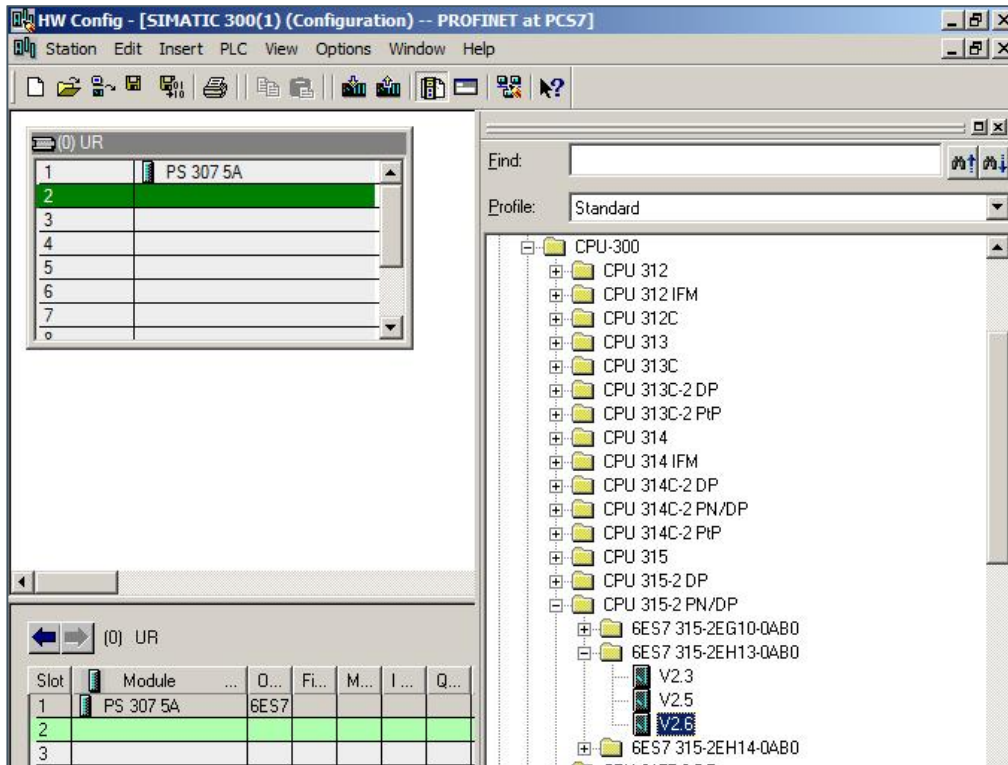

Figure 23: Adding the corresponding CPU unit
- 3) Select **SIMATIC 300 > CPU-300 > CPU 315-2 PN/DP > 6ES7 315-2EH13-0AB0 > V2.6** to add the corresponding CPU unit (see: Figure 23: Adding the corresponding CPU unit).